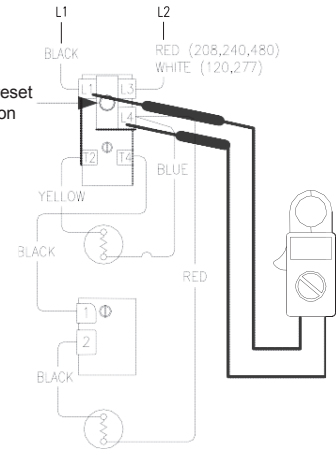

Figure 3
1. Check voltage across terminals L1 & L4 upper thermostat (see Figure 3).
2. Turn power "OFF" to water heater and firmly press ECO reset button on thermostat(s). Turn power "ON" and recheck voltage across terminals L1 & L4 of upper thermostat (see Figure 3).